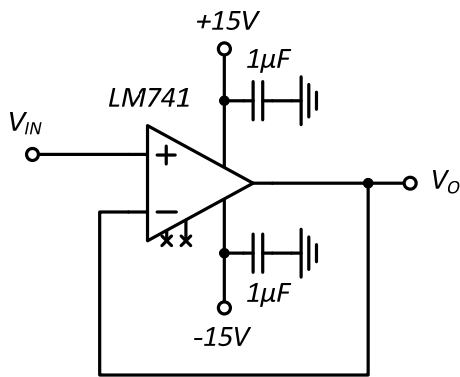

Figure 4. Circuit for exercises L2.2-6.
**L2.2** Using the same opamp you used in L2.1, build a unity gain buffer on your proto-board following the schematic in Figure 4. Connect the input voltage  $V_{IN}$  to ground and measure the output voltage at  $V_O$  with a multimeter set to the mV scale. This will be equal to the offset voltage.
- L2.4** Connect the input of the unity-gain amplifier (Figure 4) to the function generator configured as a square wave, 10Vppk, and high-Z mode. Identify the region of the output signal over which the opamp is slew-rate limited. Measure the slew rate for both a positive slope and negative slope.